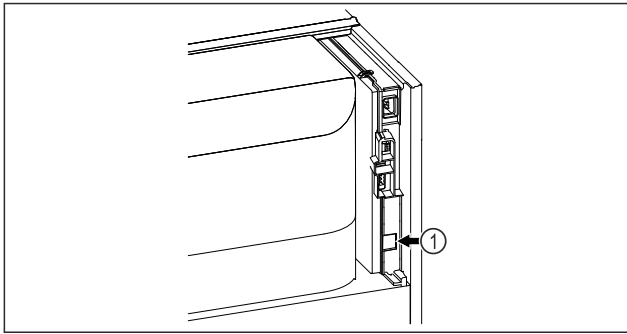

Fig. 90
- ❑ SmartModule Fig. 90 (1) is in use.